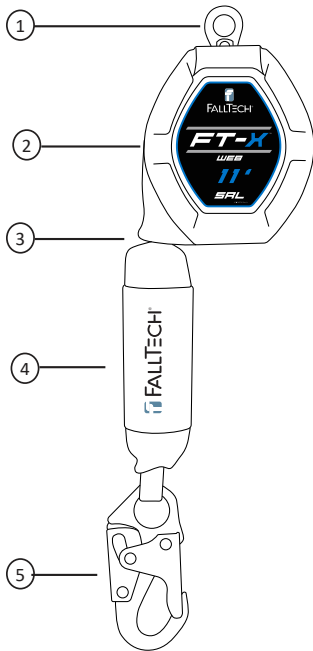

Figure 1 - About the 11' FT-X Web Class 1 SRL-P
As shown in Figure 1 below, the FT-X Web has a nylon housing that contains a synthetic lifeline wound onto a spring tensioned drum. The FT-X Web lifeline is equipped with an energy absorber and a leg-end connector. When the user is attached, the lifeline extends and retracts with the user movement, automatically maintaining taut lifeline. If a fall occurs, a centrifugal pawl system engages, stopping the lifeline payout. Then, the in-line Energy Absorber (EA) will deploy, gradually slowing and arresting the fall.